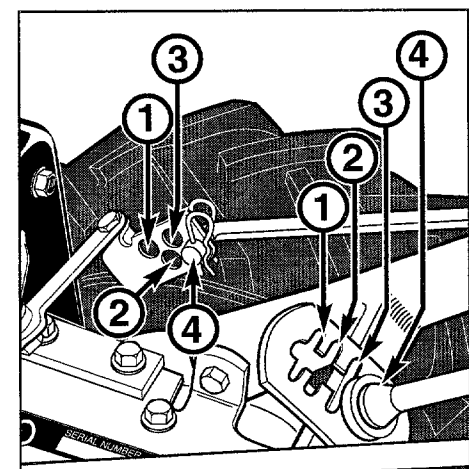

Figure 2-10: Numbered settings for handlebar height slots and clutch swivel plate holes.
3. There are four numbered holes in the clutch swivel plate (see Figure 2-10) and four numbered slots in the curved height adjustment bracket. For correct operation of the Forward Clutch rod the numbered hole used for the Forward Clutch rod must match with the numbered slot in the height adjustment bracket. For example, if the handlebar is set in slot #1, then the Forward Clutch rod must be installed in hole #1 of the clutch swivel plate.
4. Select the proper hole in the clutch swivel plate and insert the Forward Clutch rod so that the tip faces inward (see Figure 2-10). Secure the rod by inserting a second hairpin cotter through the hole near the tip of the rod.